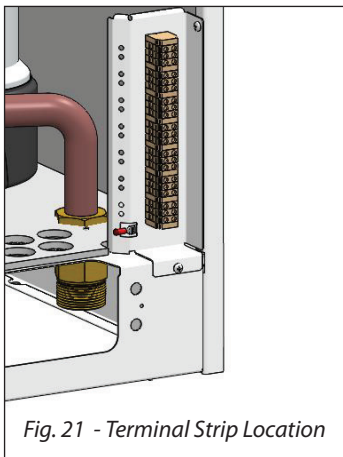

Fig. 21 - Terminal Strip Location
The low voltage terminals are located at the bottom of the CTRLMax control module. The line voltage terminals are located in the lower right corner as shown in Fig. 21 below.
1. Connect a dedicated 120 VAC/15A service to the line voltage terminals located internally in the lower right corner, as shown in Fig. 21 below.
2. Connect the CH circulator wiring to the line voltage terminals located internally in the lower right corner, as shown in Fig. 21 on the left. This circulator is typically used to supply heat to the central/space heating loop.
3. Connect the DHW circulator wiring to the line voltage terminals located internally in the lower right corner, as shown in Fig. 21 on the left. This circulator is typically used to supply heat to an indirect hot water heater.
4. Connect the P3 circulator wiring to the line voltage terminals located internally in the lower right corner, as shown in Fig. 21 on the left. This circulator is typically used to circulate water through the PRESTIGE Solo in primary/secondary piped systems.
5. Connect the P4 circulator wiring to the line voltage terminals located internally in the lower right corner, as shown in Fig. 21 on the left. This circulator is typically used as a dedicated circulator to a second space heating zone.
1. Connect the external monitoring device to the line voltage terminals located internally in the lower right corner, as shown in *Fig. 21 on page 32*.